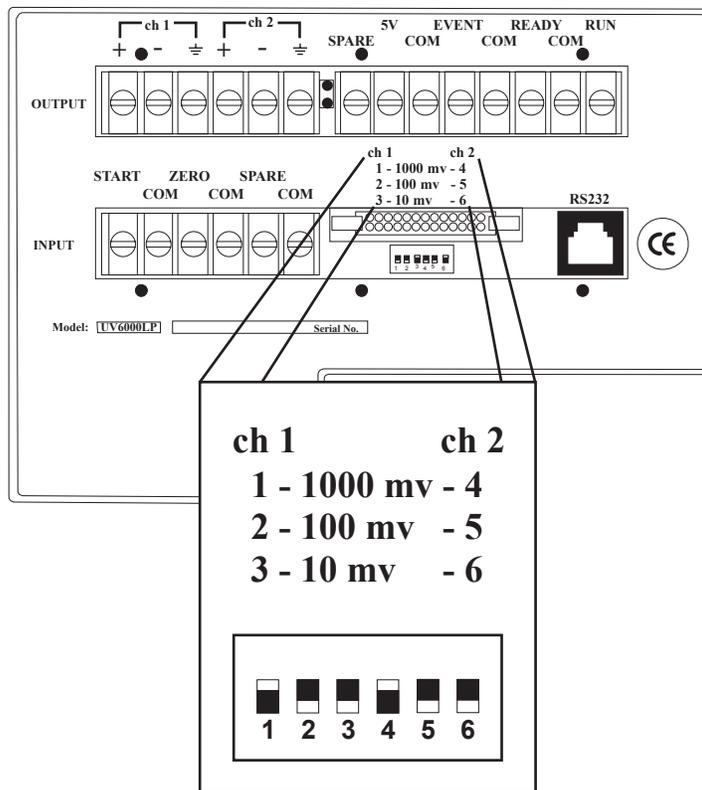

Figure 2.3 Recorder outputs full-scale voltage settings
The analog outputs are controlled by the wavelength, bandwidth, rise time, and zero functions of the detector. These outputs can also be set for 10 mV, 100 mV, or 1000 mV per AU using the switches located on the rear panel and shown in Figure 2.3.
The switches are numbered 1 through 6 from left to right, 1 to 3 for ch 1 and 4 to 6 for ch 2. For each channel, only the switch corresponding to the desired range should be up (ON). The other two switches for that channel should be down (OFF). Normally, the full-scale voltage should match the data system input span. Figure 2.3 shows both channels set to 1000 mV, (1 and 4 on, 2, 3, 5 and 6 off).